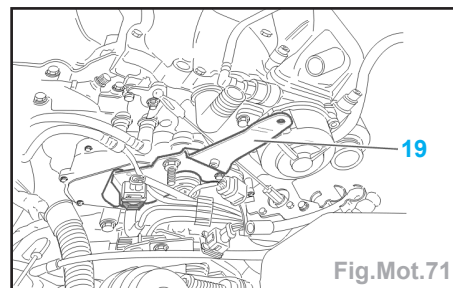

Fig.Mot.71
- Déposer le support (19) (Fig.Mot.71).